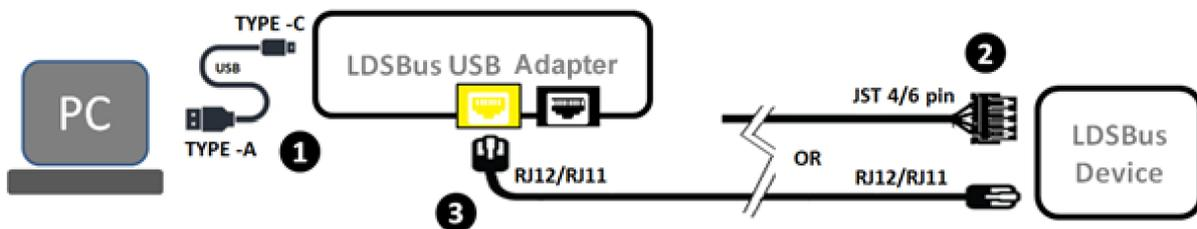

Figure 1 - LDSU Device (Sensors / Actuators) Connection Diagram
- Step 3:** Connect the other end of the cable to the LDSBus USB Adapter as shown in Figure 1.